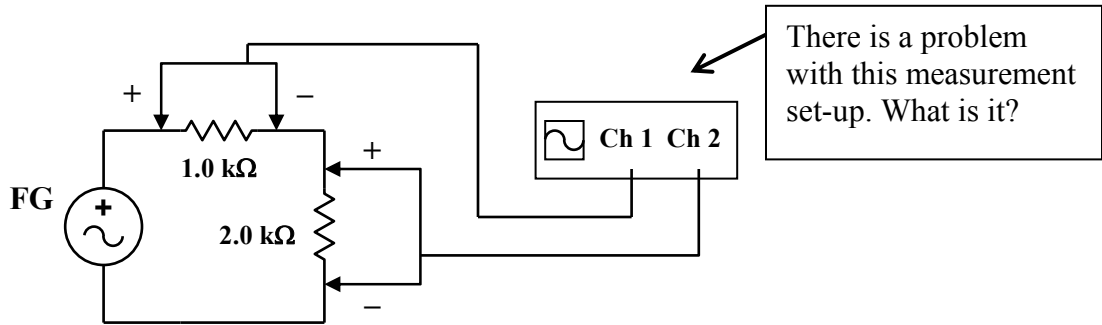

Figure 9.4b
16. Do not display scope Channel 1, but connect **Ch. 1's** probe across the $1.0 k\Omega$ resistor with **Ch. 2** still across the $2.0 k\Omega$, as shown in **Figure 9.4b**. *Describe what happens to Channel 2's display. Explain why. (hint: where is electric ground?).*